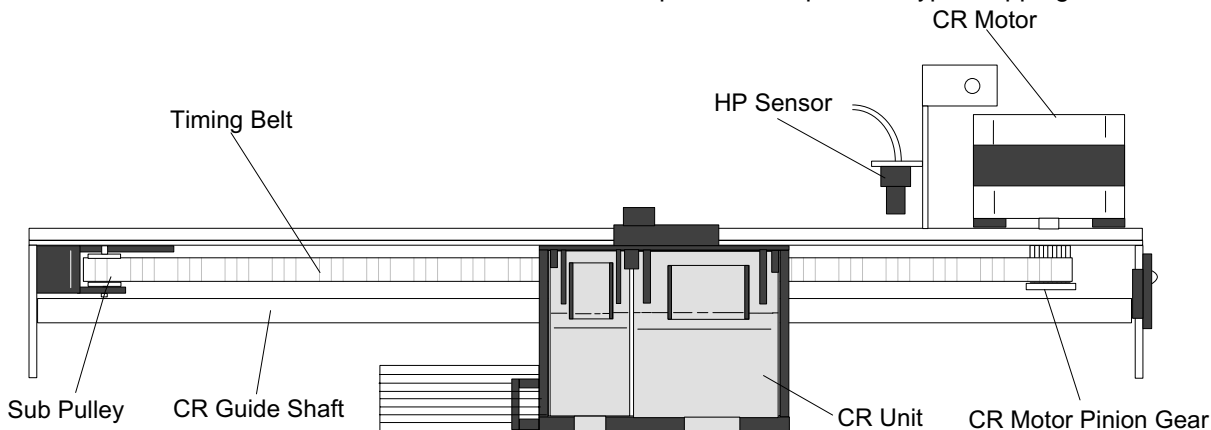

Figure 2-4. Carriage Mechanism
2.2.3 Carriage (CR) Mechanism
The CR mechanism is composed of the CR motor, Timing Belt, CR Guide Shaft, Top Frame, and Home Position (HP) sensor. The torque from the CR motor is transmitted to the CR unit via the Timing Belt to move the CR unit along the CR Guide Shaft both right and left, depending on the direction in which the CR motor rotates. When the CR unit returns to the HP position, it is detected by the HP sensor mounted on the right end of the Top Frame, and the information is fed back to the IC2 gate array (E05B33CB). Figure 2-4 illustrates the CR mechanism conception.